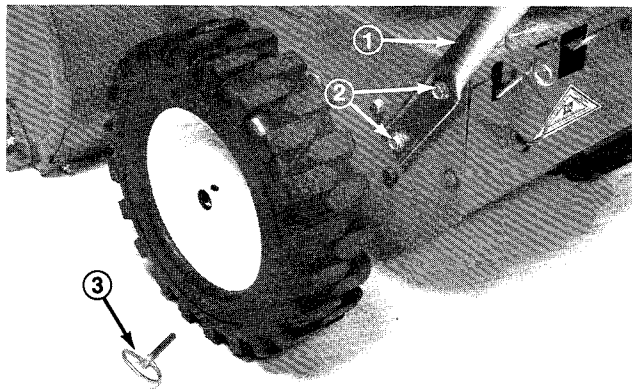

Figure 1
3. Position left handle on side of unit, align handle mount holes with holes in side plate and secure with two flange screws finger tight (Fig. 1).
**Note:** The wheel retainer pin can be removed and the wheel moved out on the axle to achieve more clearance (Fig. 1).